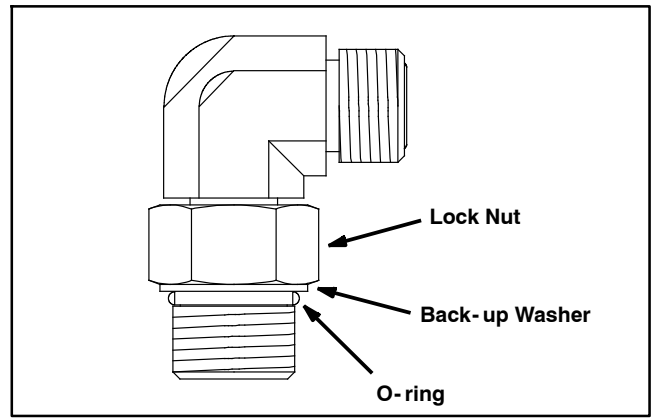

Figure 42
**Adjustable Fitting (Fig. 42)**